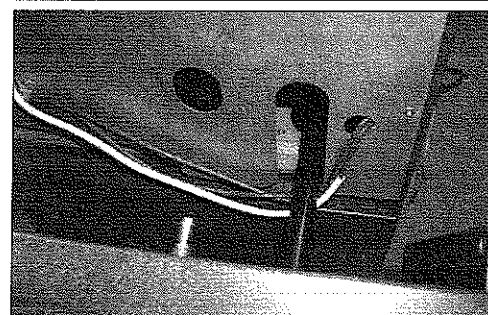

Fig 9
9. Attach the front control panel onto the grill head assembly by insert the extended tube of the manifold into the large slotted hole on the grill head bottom. (See Fig. 9)